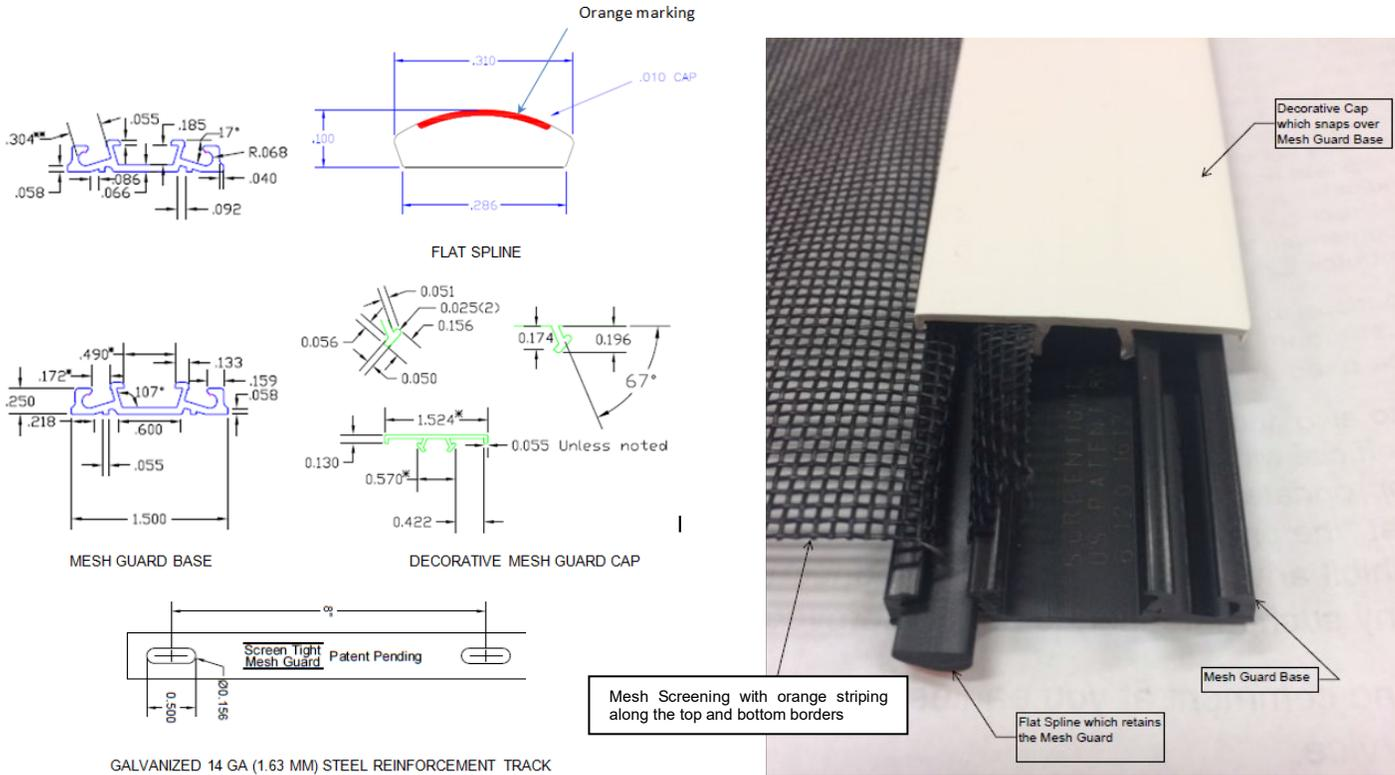

FIGURE 1—MESH GUARD SYSTEM
3.2.1 General: The Mesh Guard system is installed on guards with a minimum height of 36 inches (914 mm) or maximum height of 44 inches (1117.6 mm) above the walking surface. The mesh screening consists of a vinyl coated polyester core yarn-woven with a visible orange striping along the top and bottom borders. The mesh screening is held in place with an extruded polyvinyl chloride (PVC) flat spline with a visible orange striping; both are rolled into the cavity of the extruded PVC mesh guard base with a screening tool. A galvanized 14 gauge (1.63 mm) steel reinforcement track is used to secure the PVC mesh guard base to the wood framing. A decorative PVC mesh guard cap snaps over the PVC mesh guard base and comes in white, beige, grey, and brown. The PVC mesh guard base and cap come in 1-1/2 inch (38.1 mm) widths. See Figure 1 for details of the Mesh Guard System.
When installed on wood species with the minimum specific gravity of 0.42, each PVC mesh guard base is cut to length and installed with the galvanized 14 gauge (1.63 mm) steel reinforcement track using #6 x 1-1/4 inches (31.8 mm) stainless steel screws spaced at 8 inches (203.2 mm) on center. On vertical installations of the PVC mesh guard base, the galvanized 14 gauge (1.63 mm) steel reinforcement track was drilled 3/4 inch (19.1 mm) from the top and bottom with an additional #6 x 1-1/4 inch (31.8 mm) stainless steel screw to secure the track to the PVC mesh guard base. The mesh screening, cut to length along the orange striping, is stretched across the mesh guard base and installed by rolling the PVC flat spline with the orange striping facing down, cut to length, into the cavity of the PVC mesh guard base with a screening tool. After the PVC flat spline is inserted, the decorative PVC mesh guard cap is cut to length and snapped into place over the PVC mesh guard base using a soft mallet. See Figure 1 for details.